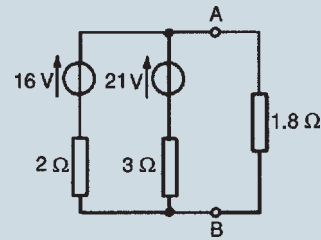

Figure 15.78
- (a) Convert the network to the left of terminals AB in Fig. 15.78 to an equivalent Thévenin circuit by initially converting to a Norton equivalent network.
(b) Determine the current flowing in the 1.8Ω resistance connected between A and B in Fig. 15.78.